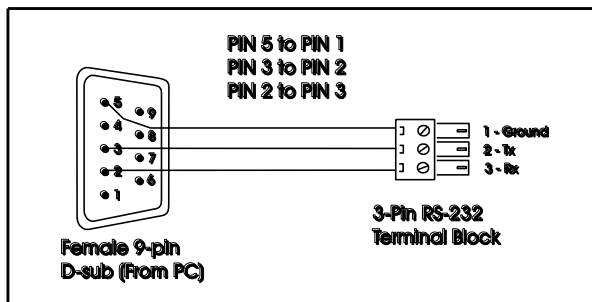

Figure 4: RS-232 Control Cable
- Connect the RS-232 9-pin D-sub port on your PC to the RS-232 rear panel port on the Master **900xl** using a cable as shown in Figure 4: